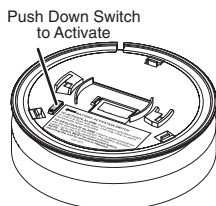

FIGURE 6B
4. Activate battery before mounting. Turn the unit over and push in the battery activation switch until it is flush with the base. See Figure 6B. **UNIT MAY CHIRP OR ALARM TEMPORARILY WHEN ACTIVATED.**
2. Before discarding or returning the unit for service the battery must be deactivated. Insert a small screwdriver into the slot next to the battery activation switch and pry it up to its fully extended position. See Figure 6B. This will deactivate the battery and allow the unit to be shipped or discarded.
4. Firex smoke alarms sold with long-life lithium batteries require replacement approximately every ten (10) years. Replace units approximately every ten (10) years or when the low battery signal sounds.